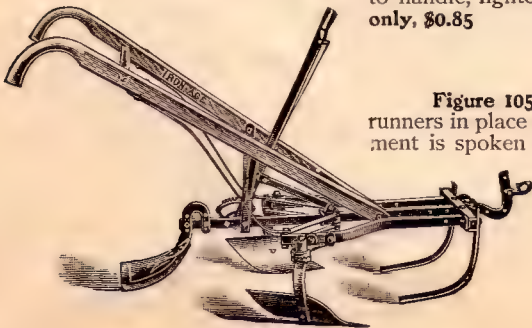

Fig. 105
**Figure 105.**—This cut represents the “IRON AGE” with steel runners in place of wheel, while being used as Coverer. This arrangement is spoken of highly by progressive farmers as being steadier in operation, and avoids all danger of displacing seed by wheel, which danger is still lessened by using two horses, as is frequently done.